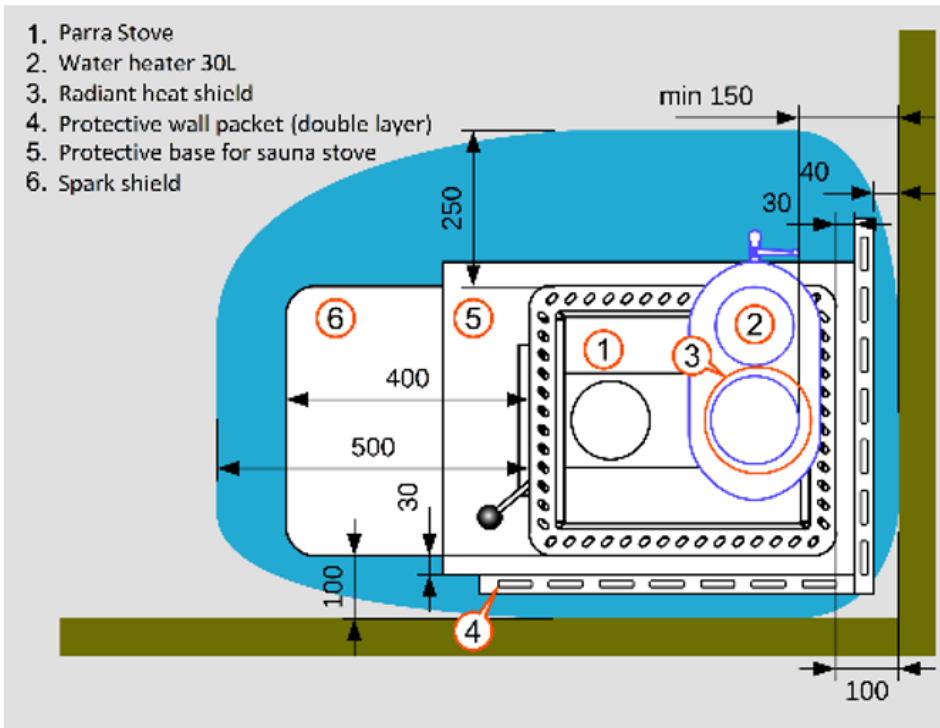

Figure 4: Parra-Stoves safety distances with L-shape protective walls + radiant heat shield tube
*) Can be reduced to 100 mm with the optional Parra sauna stove protective wall. In this case, the connect- or duct's thermal radiation shield is also needed. (Pls. see figure 4 in next page)
When using protective walls, the uninsulated connection duct to the flue must be protected with a Parra thermal radiation shield. With the thermal radiation shield, the safety distance of the uninsulated connection duct to the wall is reduced to 150 mm. (pls. see figure 4)